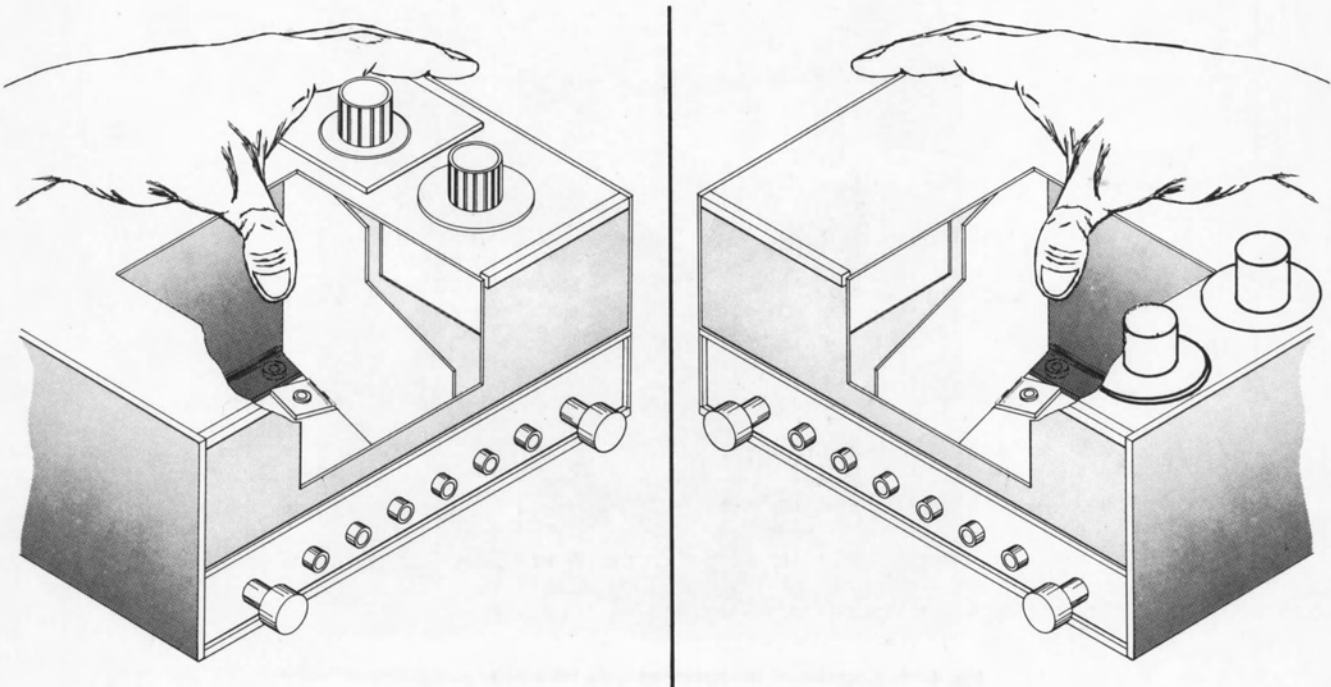

Fig. 4-12. Removing the storage compartment shields.
1. Press lightly at the point on the shield indicated in Fig. 4-12.
3. Swing the front of the shield toward the center while pulling forward on the shield, until the shield clears the grounding clip (Fig. 4-12).